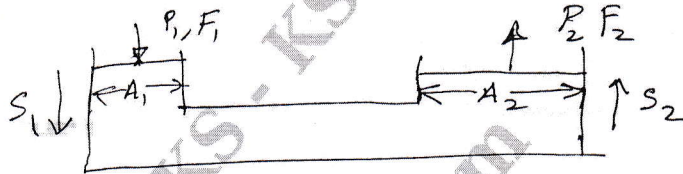

Fig.Q.2(c)
- c. For a simple hydraulic jack as shown in Fig.Q.2(c) has the following data Force ( $F_1$ ) = 100N, Area ( $A_1$ ) = 50cm2, Area ( $A_2$ ) = 500cm2, Stroke ( $S_1$ ) = 10cm, find Stroke ( $S_2$ ). Also find energy input and energy output. (06 Marks)